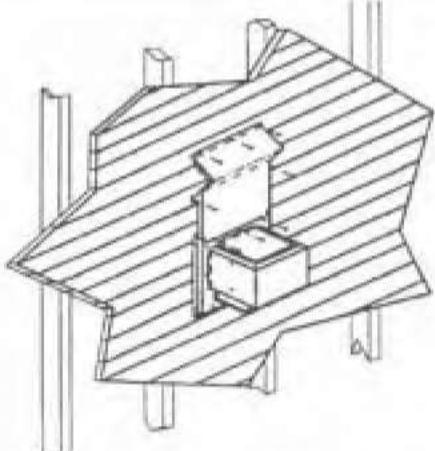

FIGURE 6-5 VINYL SIDING PROTECTOR
3. Secure the vinyl siding protector to the side of the house with eight (8) self-tapping screws, or mark the location of 12 screw holes for drilling. Refer to Figure 6-5.